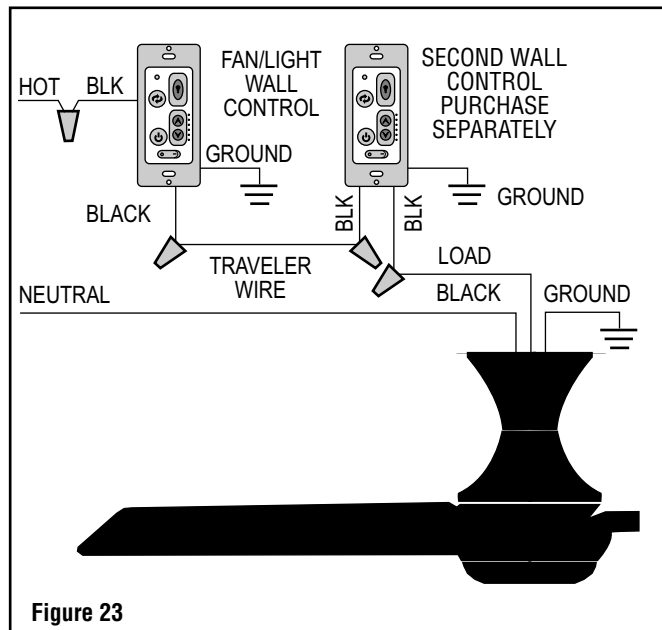

Figure 23
(See Figures 23 and 24).
Install the first Wall Control in the Wall Box containing the “Hot” Wire. Connect the Wall Control Black Wire with the Yellow Label marked “To Power Supply” to the “Hot” Wire in the Wall Box. Securely connect the Wires with the Wire Connector (supplied) (Figure 23).
Connect the Wall Control Black Wire with the Blue Label marked “To Fan” to the Traveler Wire in the Wall Box. Securely connect the Wires with the Wire Connector (supplied) (Figure 23).
Connect the Green Ground Wire to the Bare Copper Wire or Green Ground Wire in the Wall Box. Securely connect Wires with Wire Connector (supplied) (Figure 23).
**NOTE:** Retrofit 3-way installations are likely to include two traveler wires between the two wall boxes. In new construction, only one traveler wire is required (See Figure 23).